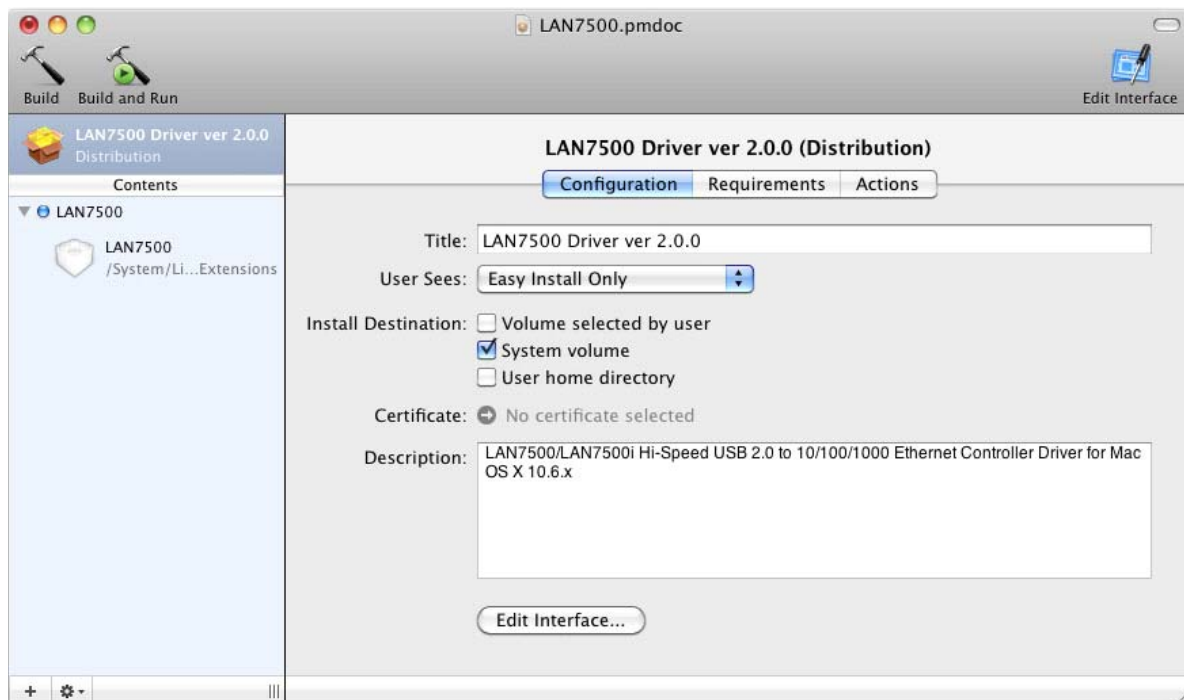

Figure 8.3 Adding LAN7500.kext
4. Execute PackageMaker and add the `LAN7500.kext` file by selecting the “+” and browsing to its location, as shown in Figure 8.3. Fill in the “Title” and “Description” fields as desired.